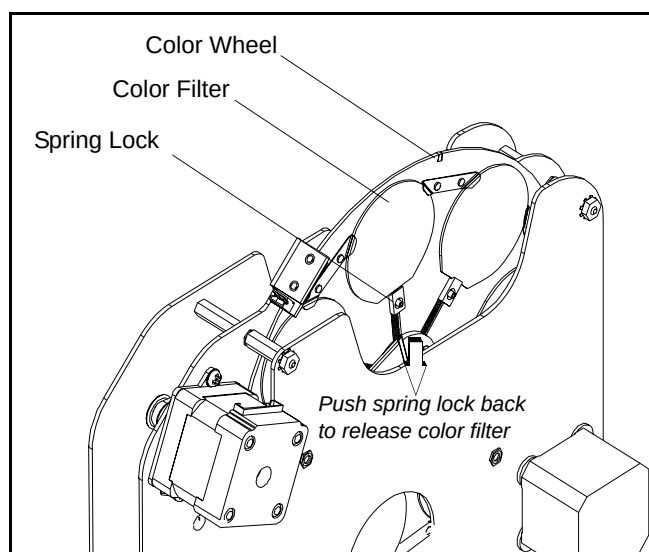

Figure 2-10: Color Filter Replacement
- Step 2. Remove top head cover by loosening four 1/4-turn screws as shown in Figure 2-10.